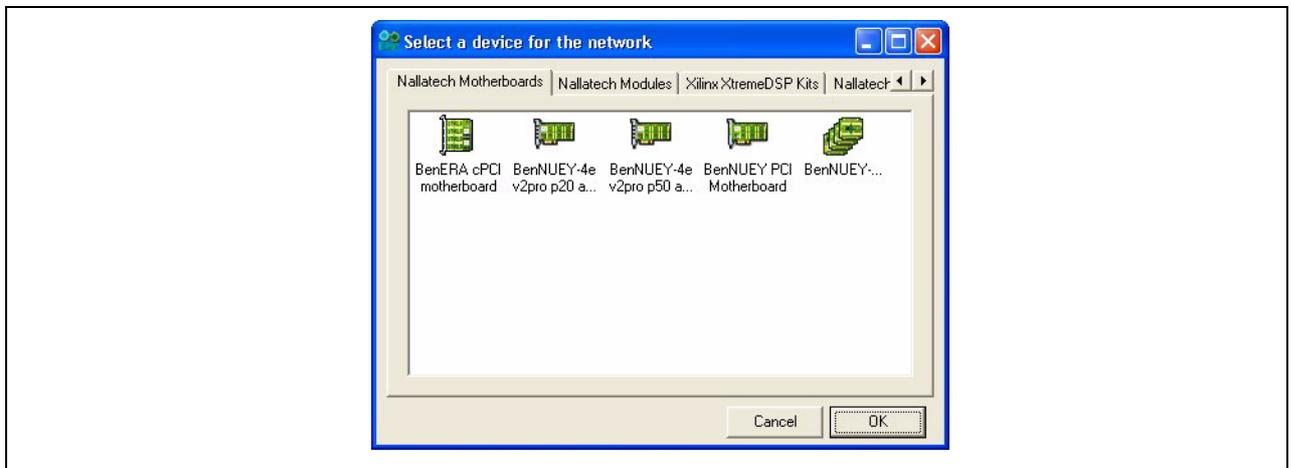

Figure 30: Assign Components
3. In the dialog box (shown in Figure 30) select the device required for the design. Click **'OK'** on the relevant motherboard or module which displays a build option menu showing the FPGA speed grades and package types available for the hardware.